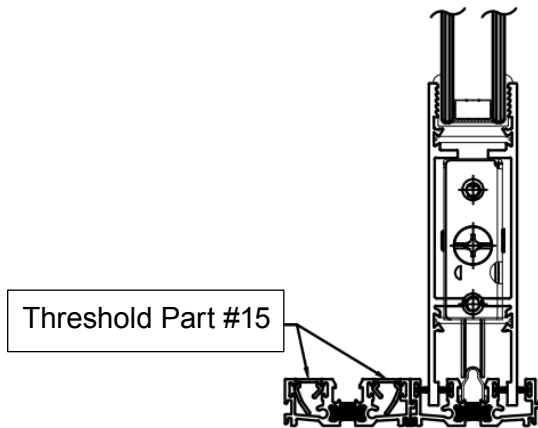

FIGURE 18A
22. Install the threshold (Part #15) into the exterior sill track (Part #12) and install the smallest trim cap (Part #14) into the head exterior track (Part #10) shown in figures 18a and 18b.